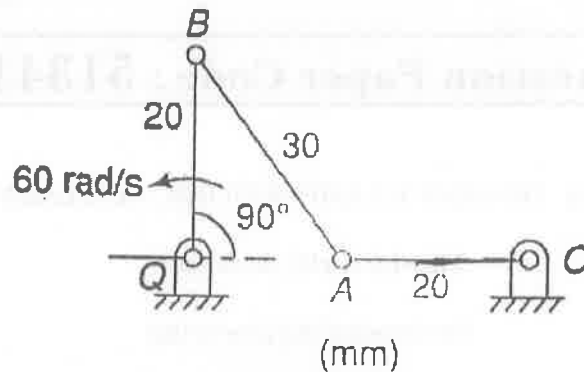

Figure 11(a)
11. (a) For the mechanism shown in figure 11(a), determine the angular velocity of link AB.